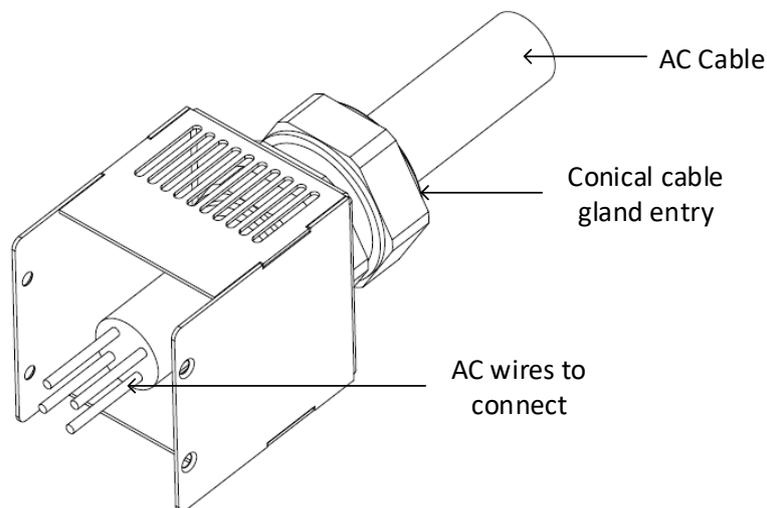
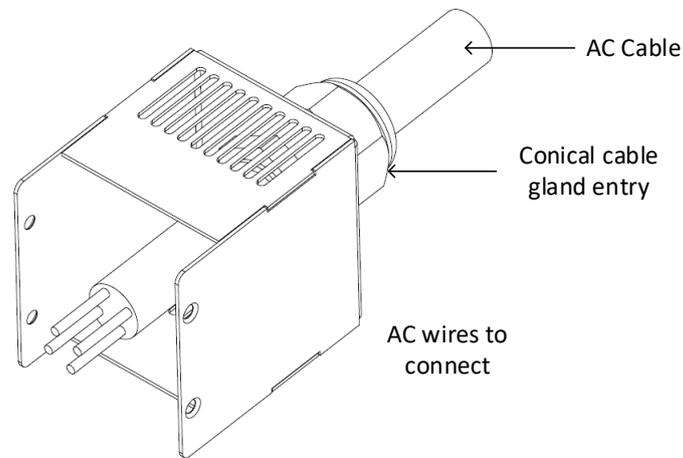

Figure 4-28: Stripped Wires Inserted Through 3-Phase 200 Strain Relief Bracket
Figure 4-29: Stripped Wires Inserted Through 3-Phase 400/480 Strain Relief Bracket
5. Insert the AC cable through the conic cable gland entry and the strain relief bracket. For 3-Phase 200, refer to Figure 4-28. For 3-Phase 400/480, refer to Figure 4-29.